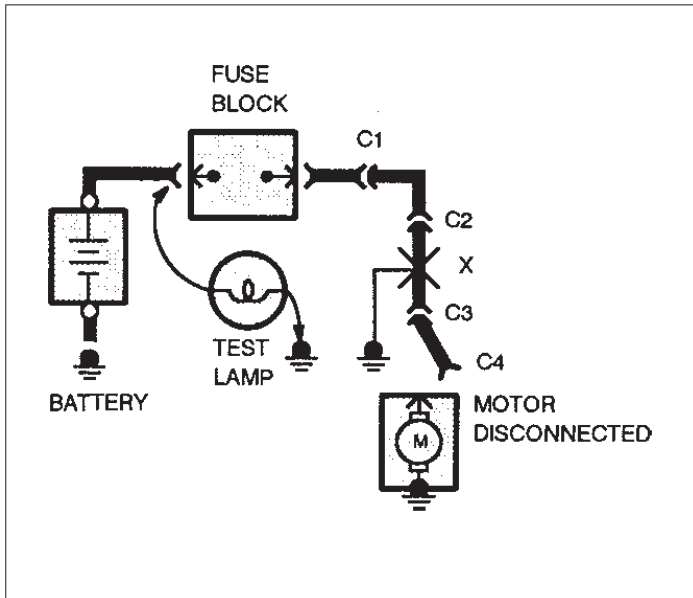

Figure 5 – Short Check
A fuse that repeatedly blows is usually caused by a short to ground. It's important to be able to locate such a short quickly (Figure 5).
- Motors: disconnect motor connector (Connector C4 in Figure 5).
5. Disconnect the test lamp lead that is connected to ground, and reconnect it to the load side of the fuse at the connector of the disconnected component. (In Figure 5, connect the test lamp lead to connector C4).
- If the Test Lamp goes on, the short is in the wiring. You must find the short by disconnecting the circuit connectors, one at a time, until the Test Lamp goes out. For example, in Figure 5 with a ground at X, the bulb goes out when C1 or C2 is